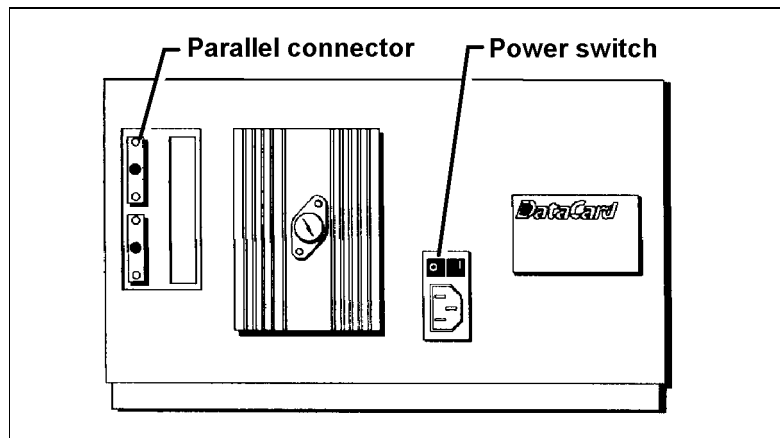

Figure 2-36. ImageCard II Power Switch and Parallel Cable Connection
6. Turn the printer power switch to OFF (Figure 2-36) and turn off the ID-4000 computer.
7. Use a standard 25-pin M / 50-pin Centronics parallel cable to connect the printer's parallel connector (Figure 2-36) to the ID-4000 computer parallel port.
2. Turn the printer power switch (Figure 2-36) to ON and verify the following events: